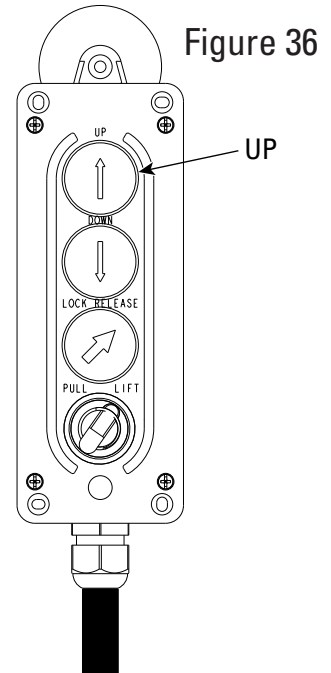

Figure 36
3. Activate pump by depressing and holding "UP" button on hand-held pendant. Raise machine until both cylinders are above desired working height, Figure 36.
3. Activate pump by depressing and holding "UP" button on hand-held pendant. Raise machine until both lock arms are released, Figure 36.